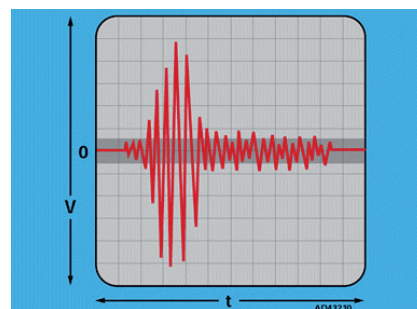

Fig 28 - Knock sensor (KS) wave form
- Wave form should display an ac signal showing a considerable increase in amplitude *Fig 28*.